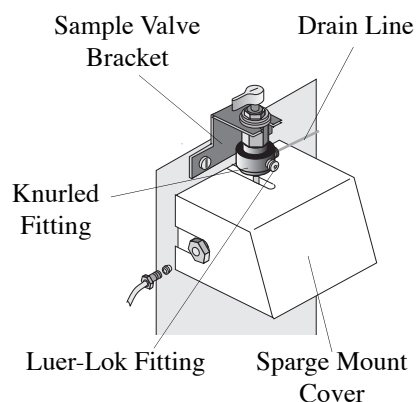

Figure 3.4. Model 4560 Three-Way Valve
2. Disconnect the drain line from the three-way sample valve by loosening the knurled nut, depicted in Figure 3.4.